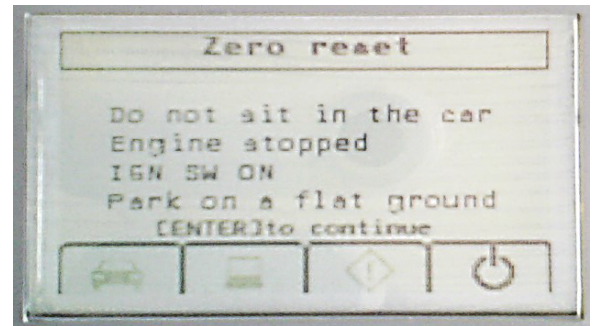

Figure A6
- The screen in Figure A6 (next page) will display when system call is complete.
- If system call does not complete and the screen in Figure A6 does not display, the vehicle may not apply to this campaign, or the incorrect campaign is being performed.
7. When this screen displays (Figure A6), go to the next step for zero point reset preparation.